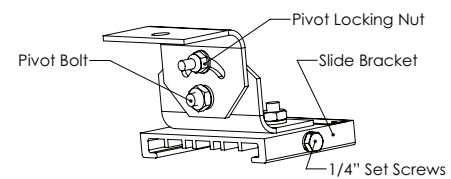

Figure 5. Swivel Mount Details
5. Tighten the two (2) 1/4" set screws on each slide bracket until they bottom (see Figure 5). Torque to 78 in.-lbs. (8.8 N-m).
6. Adjust the position of the fixture to the desired angle and tighten the two (2) 5/16" pivot bolts. Torque to 138 in.-lbs. (15.6 N-m).
7. Tighten the two (2) 1/4" pivot locking nuts at the adjustment slots to 78 in.-lbs. (8.8 N-m).